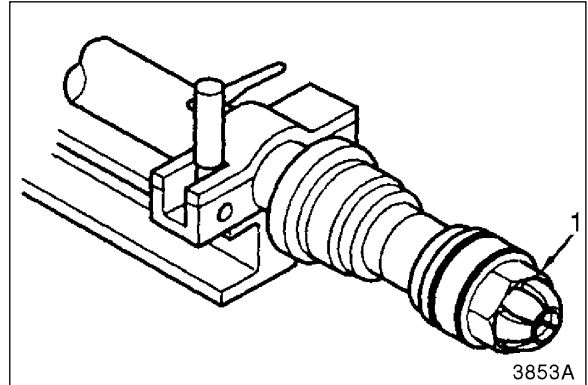

Figure 34
20. Install piston nut (1, Figure 34) and tighten it with an impact wrench. Then use a torque wrench to tighten nut (1) to specified torque.